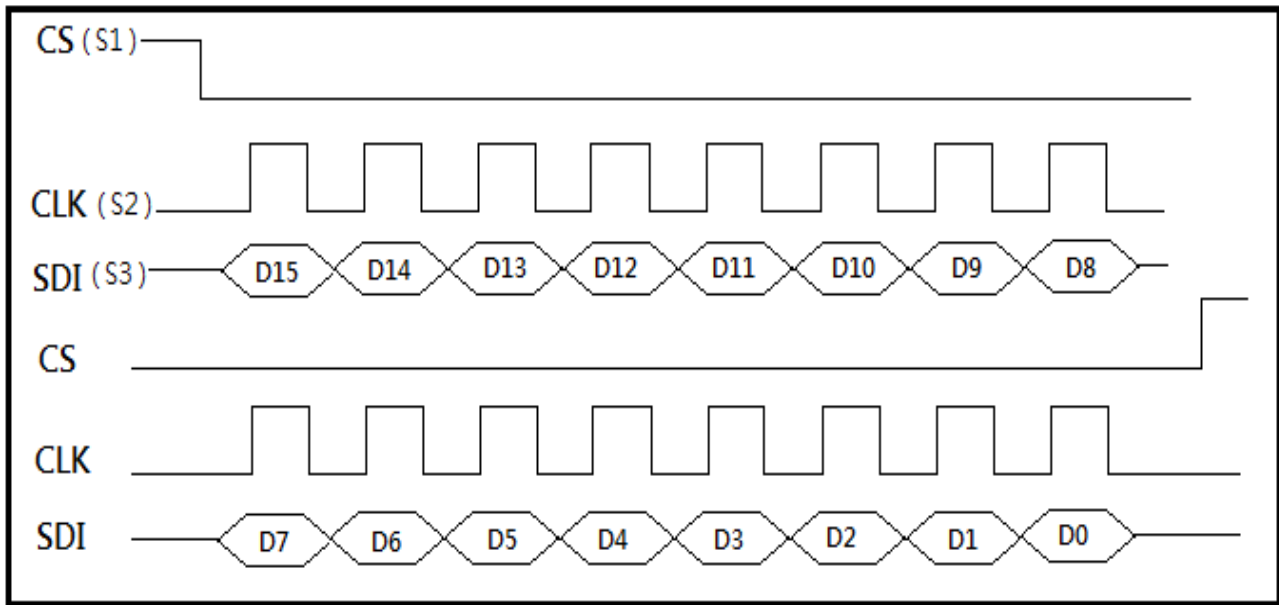

Fig. 8 SPI command timing
- a. Command timing reference Fig. 8 SPI command timing.
- a. command timing reference Fig. 8 SPI command timing.